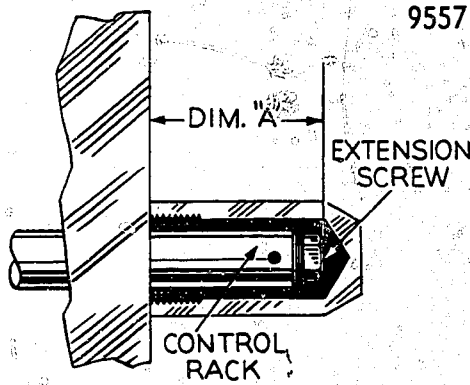

Figure 2.
13. With the governor operating lever in full load position and pump at zero RPM, and the linkage clearances taken up toward L. H. Side, shim extension screw to the 1.500" dimension. Always recheck extension by moving operating lever from idle to full load position several times. (See Figure 2.)
16. If other than this Mack's number is stamped on the name plate, it will be necessary to readjust the stop plate to obtain the required dimension "A" (See Figure 2) for the control rack. This will result in a reduction of the full load fuel delivery, but it is not necessary to check for actual fuel delivery quantities. (Do not disturb the control rack shimming to obtain dimension "A".) The code table will be found at the end of these instructions.